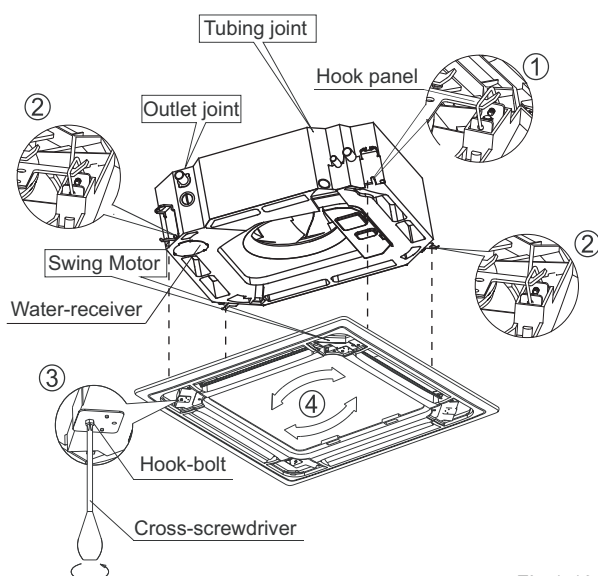

Fig.1-10
- Align the swing motor on the panel to the tubing joints of the body properly. (Refer to Fig.1-10)